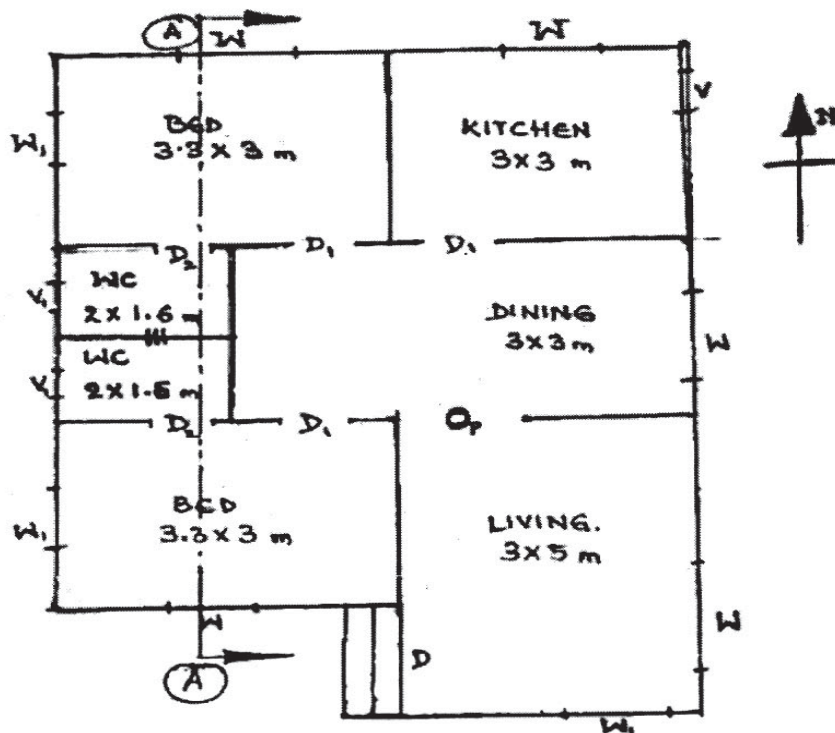

Fig. 1
b) Two Wooden Planks 150mm×50mm each are connected to form a T section of a beam. A moment of 6.4kN-m is applied around the horizontal neutral axis. Find the bending stresses at both the extreme fibers of cross-section (Fig.1) [9]